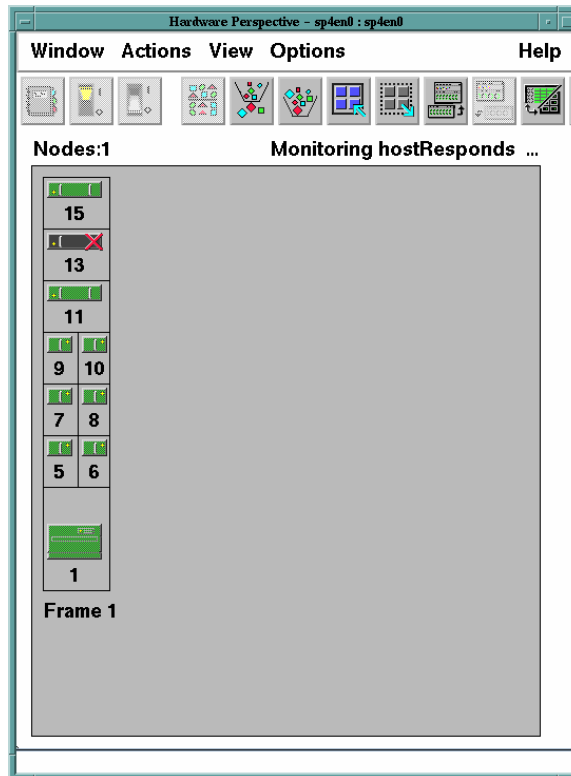

Figure 48. A Nodes Pane Showing Monitoring of hostResponds
Figure 48 shows the hardware perspective with a single Nodes pane which is monitoring the hostResponds condition. There are three features of the display that should be noted:
- If the condition is true, in this case if the node has host responds, then the icon will be green. If the condition is not met, then the icon will be black and have a small red cross through it. You can see from Figure 48 that node 13 does not have host responds. A monitored condition which has failed and is red can also be acknowledged by clicking on the "acknowledge monitored or unknown state" icon or selecting **View->Acknowledge Monitoring State**. If this is selected the icon will turn yellow with a black tick mark.